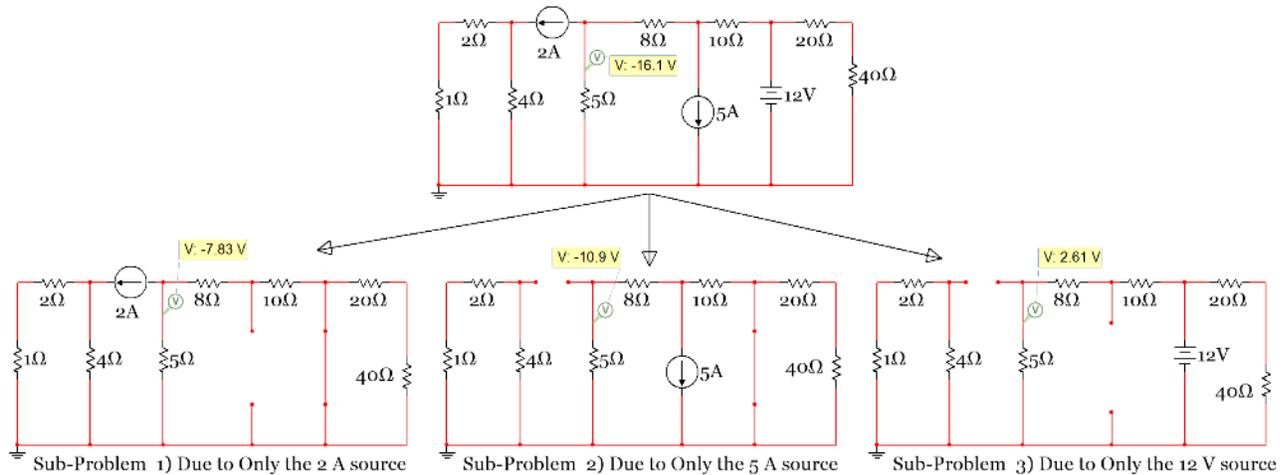
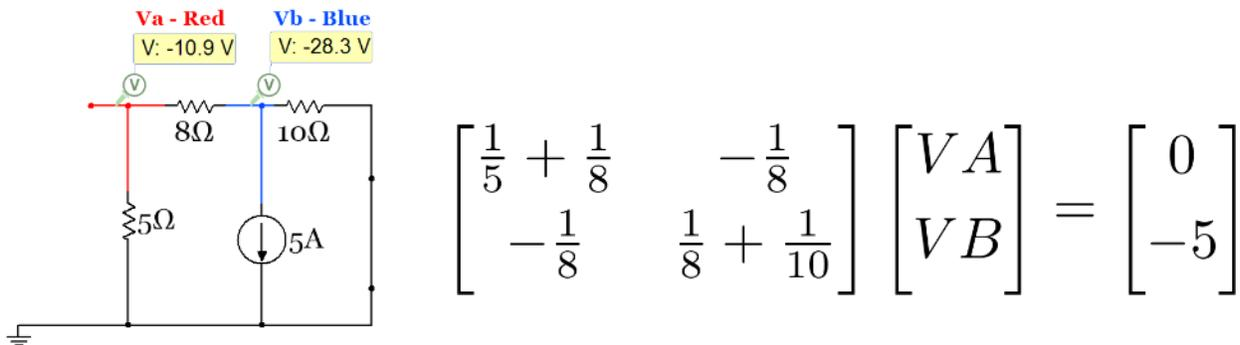

Figure 2.38: Circuit for Example 2.17
Figure 2.40: Circuit and Nodal Matrix equation for sub-problem 2 of Example 2.17
The two tricky situations mentioned above can be seen in the circuit in Figure 2.38. Situation 1 (described above) applies to the sub-problems 1 and 2 circuit in Figure 2.38 where the short circuit is in parallel with a resistor network. The 20Ω and 40Ω resistors are in series and can be added to equal 60Ω . That 60Ω resistor is in parallel with the short circuit (0Ω). As stated previously the end result will be the short circuit remaining and the 20Ω and 40Ω resistors being shorted out (as shown in Figure 2.40).
Situation 2 (described above) applies to the sub-problem 2 and 3 circuit in Figure 2.38 where the open circuit is in series with a resistor network. The network containing the 1Ω , 2Ω , and 4Ω resistors are in series with the open circuit so these resistors will have no effect on the results because no current will
Since there are 3 independent sources in this circuit it requires 3 sub-problems when using the superposition solving technique. First, $V_{5\Omega}$ will be solved Due to Only the 2 A source (bottom-left circuit in Figure 2.38). Notice how the 20 Ω and 40 Ω resistors are “shorted out” and the two wires from the 5 A source are removed. The 1 Ω and 2 Ω resistors are in series so they are added together and the 8 Ω and 10 Ω resistors are in series so they are also added together. **By making these simplifications the number of nodes is reduced from 4 to 2 (not counting the reference node).** These are allowable simplifications since the only voltage we are solving for is the voltage across the 5 Ω resistor and it is not involved in the simplification.
Next, $V_{5\Omega}$ will be solved Due to Only the 5 A source (bottom-middle circuit in Figure 2.38). The 20Ω and 40Ω resistors are removed due to “situation 1” described previously and the network containing the 1Ω , 2Ω , and 4Ω resistors are removed from the circuit due to “situation 2” described previously. After redrawing the circuit, it is also a Nodal Matrix problem with a 2×2 A matrix as shown below.
Solving the Nodal Matrix equation gives $V_A = -10.87 \text{ V}$ and $V_B = -28.26 \text{ V}$ (which matches the Multisim voltage probe values shown in Figure 2.40). $V_{5\Omega_2} = V_A = \underline{-10.87 \text{ V}}$
Finally, $V_{5\Omega}$ will be solved Due to Only the 12 V source (bottom-right circuit in Figure 2.38). Again, the network containing the 1Ω , 2Ω , and 4Ω resistors are removed from the circuit due to “situation 2” described previously. After redrawing the circuit, it is shown to be a simple 2 loop Mesh Matrix problem.
Solving the Mesh Matrix equation gives $I_1 = -521.74 \text{ mA}$ and $I_2 = 200 \text{ mA}$ (which matches the Multisim current probe values shown in Figure 2.40). $V_{5\Omega_3} = -I_1 \cdot 5 = \underline{2.6087 \text{ V}}$
- $V_{5\Omega} = V_{5\Omega_1} + V_{5\Omega_2} + V_{5\Omega_3} = -7.826 \text{ V} - 10.87 \text{ V} + 2.6087 \text{ V} = \underline{-16.088 \text{ V}}$ (Matches the value in Figure 2.38)